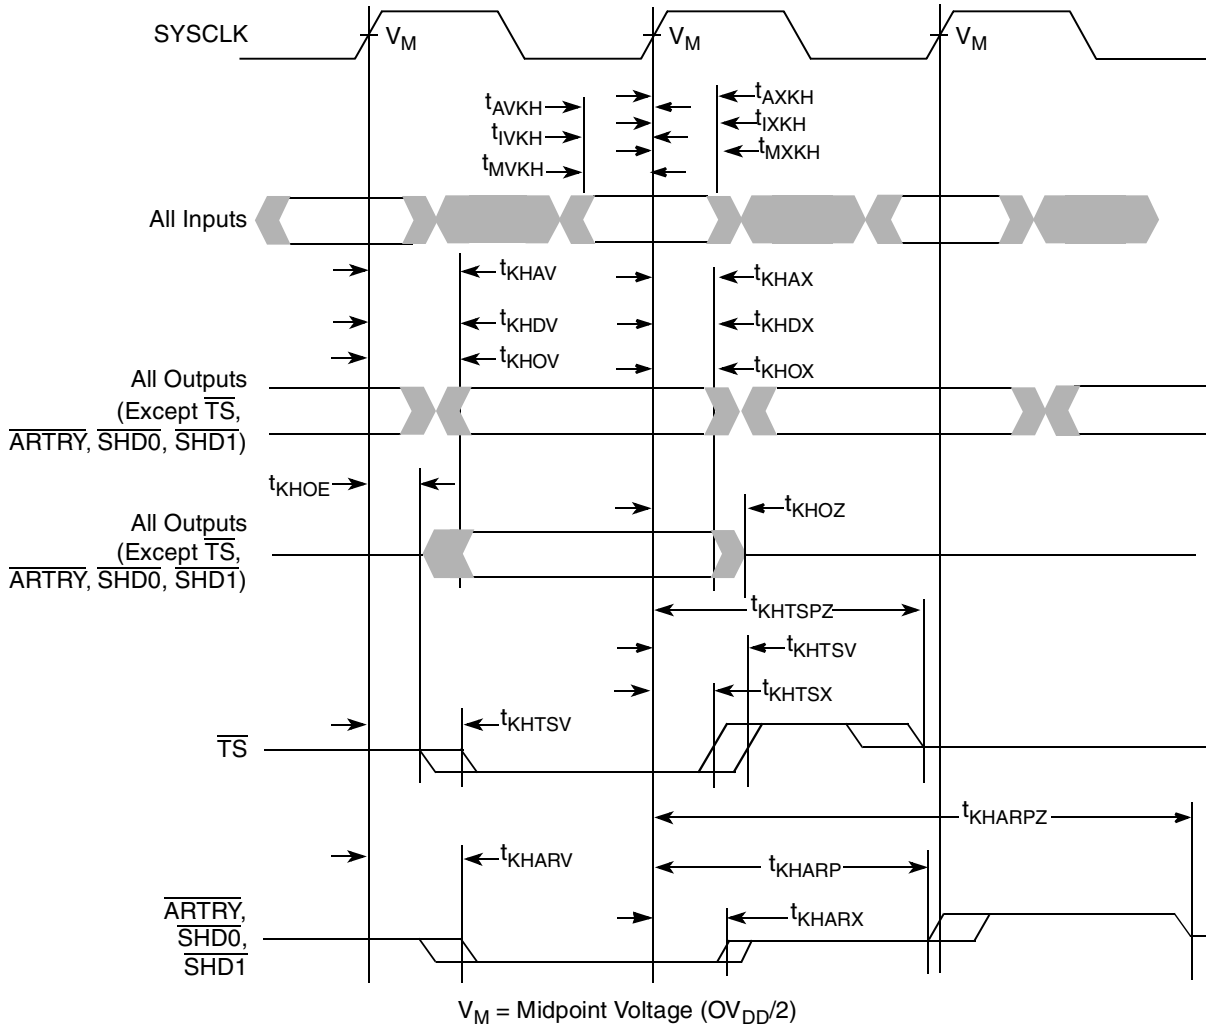

Figure 6. Input/Output Timing Diagram
- The symbology used for timing specifications herein follows the pattern of  $t_{(\text{signal})(\text{state})(\text{reference})(\text{state})}$  for inputs and  $t_{(\text{reference})(\text{state})(\text{signal})(\text{state})}$  for outputs. For example,  $t_{\text{VVKH}}$  symbolizes the time input signals (I) reach the valid state (V) relative to the SYSCLK reference (K) going to the high (H) state or input setup time. And  $t_{\text{KH0V}}$  symbolizes the time from SYSCLK(K) going high (H) until outputs (O) are valid (V) or output valid time. Input hold time can be read as the time that the input signal (I) went invalid (X) with respect to the rising clock edge (KH) (note the position of the reference and its state for inputs) and output hold time can be read as the time from the rising edge (KH) until the output went invalid (OX).
- According to the bus protocol,  $\overline{\text{TS}}$  is driven only by the currently active bus master. It is asserted low and precharged high before returning to high impedance, as shown in Figure 6. The nominal precharge width for  $\overline{\text{TS}}$  is  $0.5 \times t_{\text{SYSCLK}}$ , that is, less than the minimum  $t_{\text{SYSCLK}}$  period, to ensure that another master asserting  $\overline{\text{TS}}$  on the following clock will not contend with the precharge. Output valid and output hold timing is tested for the signal asserted. Output valid time is tested for precharge. The high-impedance behavior is guaranteed by design.
- According to the bus protocol,  $\overline{\text{ARTRY}}$  can be driven by multiple bus masters through the clock period immediately following  $\overline{\text{AACK}}$ . Bus contention is not an issue because any master asserting  $\overline{\text{ARTRY}}$  will be driving it low. Any master asserting it low in the first clock following  $\overline{\text{AACK}}$  will then go to high impedance for 1 clock before precharging it high during the second cycle after the assertion of  $\overline{\text{AACK}}$ . The nominal precharge width for  $\overline{\text{ARTRY}}$  is  $1.0 t_{\text{SYSCLK}}$ ; that is, it should be high impedance as shown in Figure 6 before the first opportunity for another master to assert  $\overline{\text{ARTRY}}$ . Output valid and output hold timing is tested for the signal asserted. The high-impedance behavior is guaranteed by design.
Figure 6 provides the input/output timing diagram for the MPC7447A.